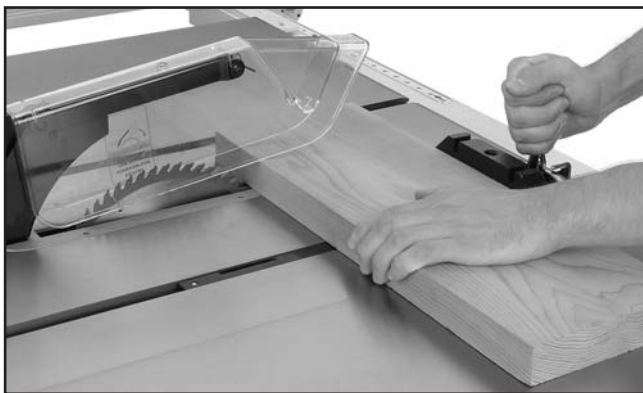

Figure 56. Typical crosscutting operation.
7. Hold the workpiece firmly against the face of the miter gauge (**Figure 56**), and ease it through the blade until the workpiece is completely past the saw blade.